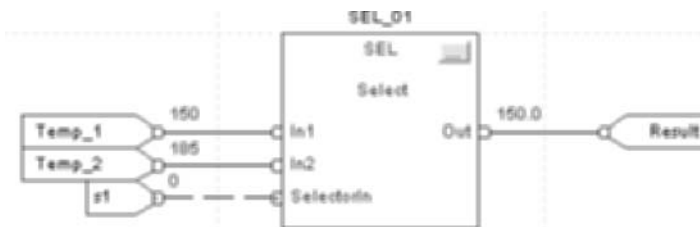

Figure 11-34 A SEL function block.
The SEL function block uses a digital input to select one of two inputs. This instruction is only available in function block programming. An example is shown in Figure 11-34.
The SEL function block selects In1 or In2 on the basis of SelectorIn. If SelectorIn is set, the instruction sets Out = In2 (see Figure 11-34). If SelectorIn is cleared, the instruction sets Out = In1. In this example 0 was input to SelectorIn so the value at In1 (150) is output to the OREF named Result.